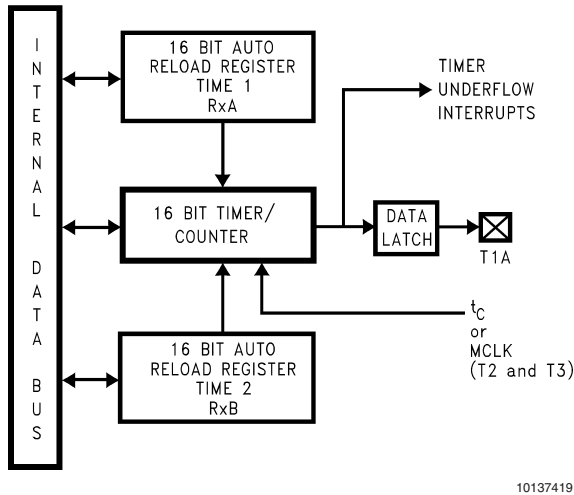

FIGURE 16. Timer in PWM Mode
*Figure 16* shows a block diagram of the timer in PWM mode.